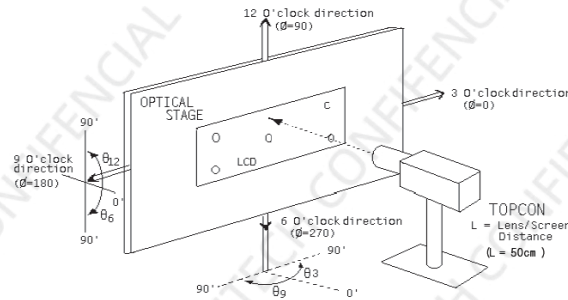

Figure 3
1. Viewing angle is the angle at which the contrast ratio is greater than 10. The viewing angles are determined for the horizontal or 3, 9 o'clock direction and the vertical or 6, 12 o'clock direction with respect to the optical axis which is normal to the panel surface (see Figure 3).
2. Contrast measurements shall be made at viewing angle of $\theta = 0^\circ$ and at the center of the panel surface. Luminance shall be measured with all pixels in the view field set first to white, then to the dark (black) state. (see Figure 3) Luminance Contrast Ratio (CR) is defined mathematically.